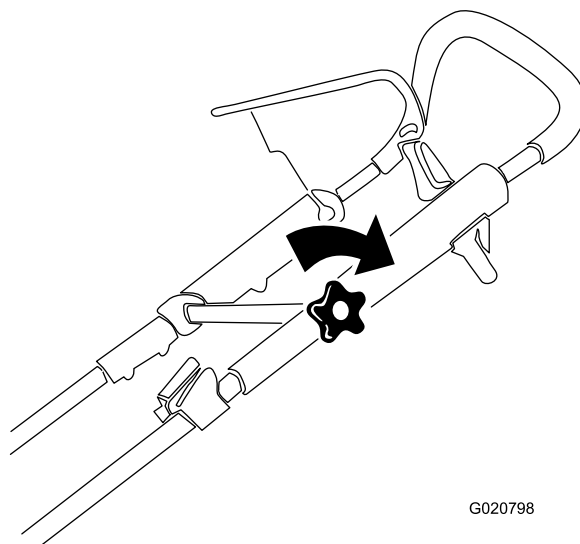

Figure 4
3. Move the upper handle to the desired position and tighten the upper handle knob firmly (Figure 4).